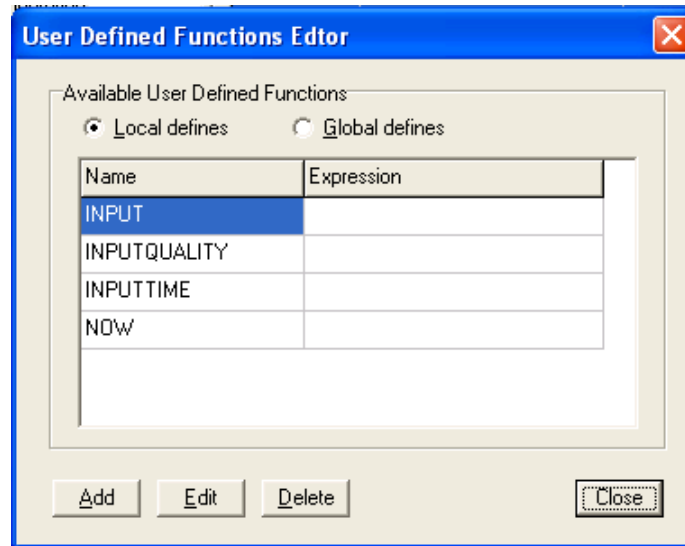

Figure 26 - User Defined Functions Editor
12. If required, from the **Select variable** window, click on the **Modify variables** button to access the **User Defined Functions Editor** (Figure 26) which allows you to add, change, or delete variables.